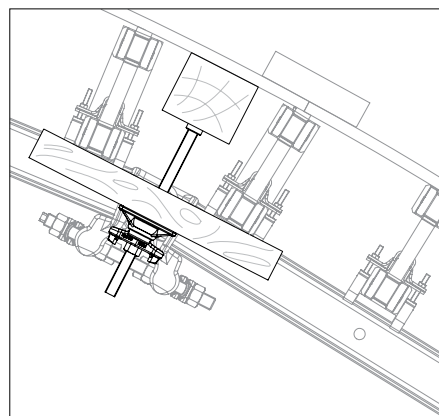

Fig. C1.01a
2. Vertically align the inner element with push-pull props (16) and secure.
5. Hammer in Pin for GRB (3) and secure with Cotter Pin 5/1 (4).
6. Install Adjusting Bolts (5) and tighten securely (see Section A2).
7. Align element with push-pull prop (16).
9. Pull the formlining of the first inner element onto the edge lattice girder of the second element. (Fig. C1.01a)
- Position the element with the Articulated Spindle Waler GSRV (2) as the last element.